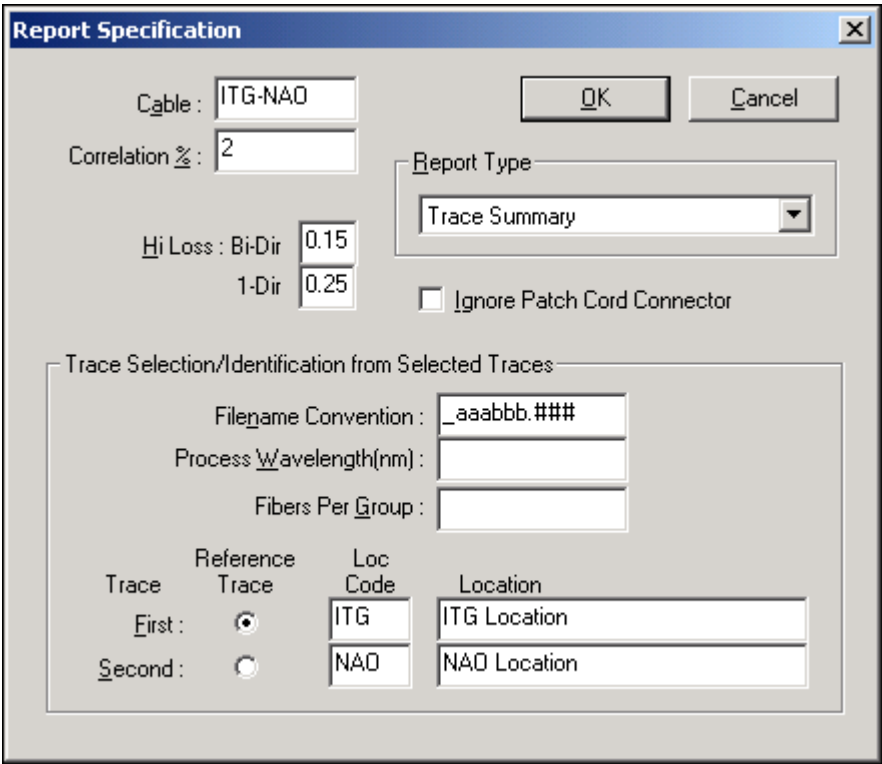

Figure 12-6: Report Specification Dialog Box
- 4. Set up the Report Specification dialog box as shown in Figure 12-6.
4. Using the Report Specification dialog box parameters shown in Figure 12-6, select the **Bi-Dir Splice Loss Report**.
5. Using the same Report Specification dialog box parameters shown in Figure 12-6, select the **1-Dir Splice Loss Summary Report**.
4. Using the same Report Specification dialog box parameters shown in Figure 12-6, select the **Fiber Acceptance Report**.